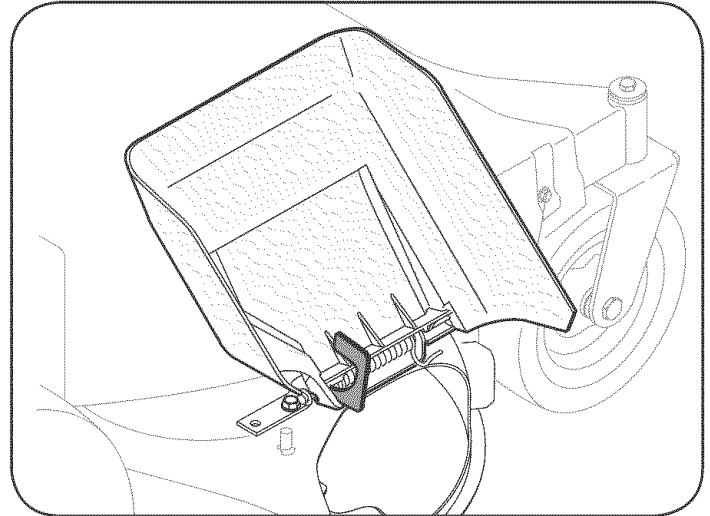

Figure 1
1. Locate the chute holder which secures the discharge chute in a vertical position, Figure 1.